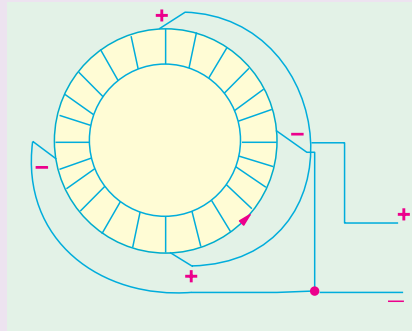

Fig. 28.33
**Ans.** Usually, all positive brushes are connected together and all the negative brushes together (Fig. 28.33).